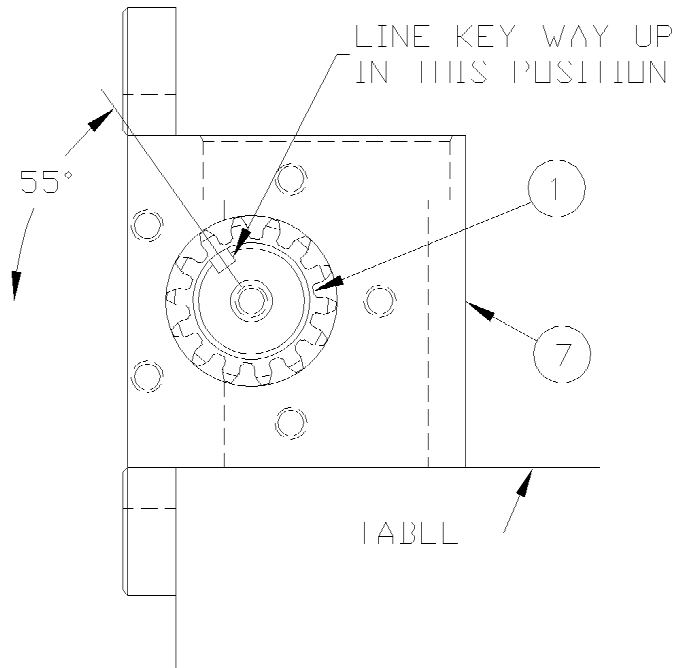

figure A-4
- Place the actuator body (7) (fig. A-4) on the edge of the table, mounting flanges closest to the assembler with the counter-bores facing up. Insert the pinion shaft (1) through the bore on either side of the actuator body with the key ways facing back toward the mounting flanges and up away from the table with the center line of the key ways pointing in the position as shown in figure A-4. Center the pinion in the actuator body.